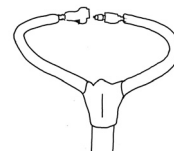

Figure 8
2. Disconnect the hoses from Splints and connect all male/female ends of hoses to each other to prevent leakage of Cooling Fluid (Fig. 8).
Whenever the Control Unit is not connected to a Splint, connect the ends of the hose as shown in Fig. 8. Failure to follow this procedure could result in damage to the pump and fluid leakage.